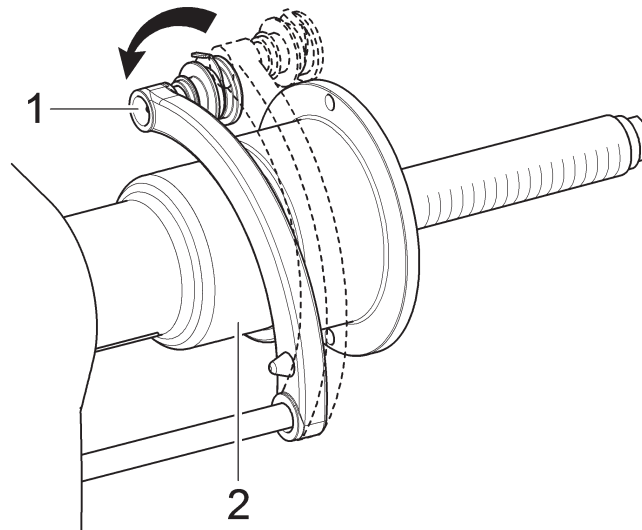

Fig. 45
Repeatedly bringing the gauge arm (Fig. 45 ref. 1) in contact with the spindle (Fig. 45 ref. 2), the program will cyclically go from "STATIC" to "STATIC 1" TO "STATIC 2" then returning to the beginning.
2. bring into contact the weights fitting pliers with the inner part of the rim (2 contact points) (see Fig. 45) to select "ALU-S" program;
Repeatedly bringing the gauge arm (Fig. 45 ref. 1) in contact with the spindle (Fig. 45 ref. 2), the program will cyclically go from "ALU-S" to "ALU-S1" to "ALU-S2", then returning to the beginning.
1. remove the distance-diameter caliper arm and bring the weights fitting pliers into contact with the inner part of the rim as shown in Fig. 45;